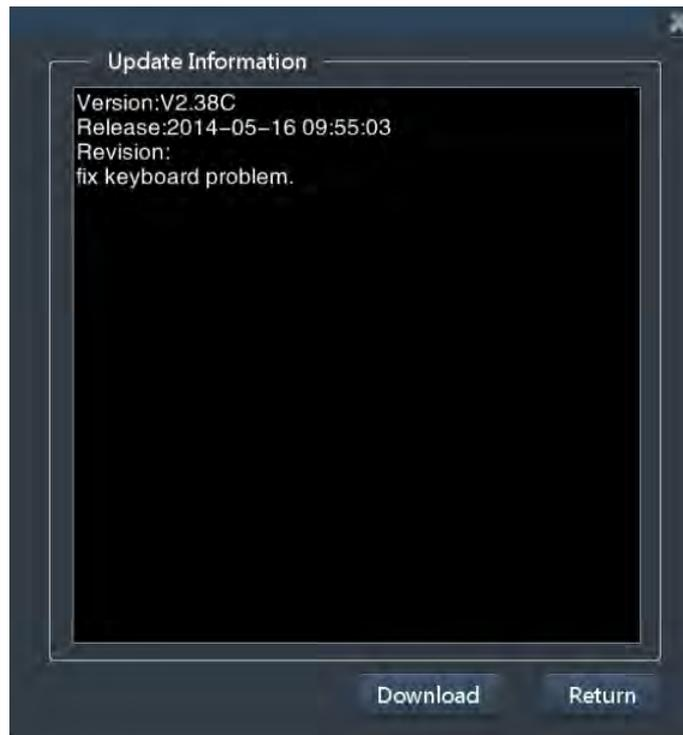

Fig. F-34 System update
**Procedure:** Use the trackball and the **Set** key to click on the **Update** button. If the current software version is up to date, the "**Latest version. Update not required**" window will pop up. If the current software is not the latest version, the relevant information for the latest software will be displayed, as shown as Fig. F-34. The user can click on **Download** at the bottom-right corner of the screen, select the root file to be saved, and click on **Save** to download the latest software to the root directory indicated.